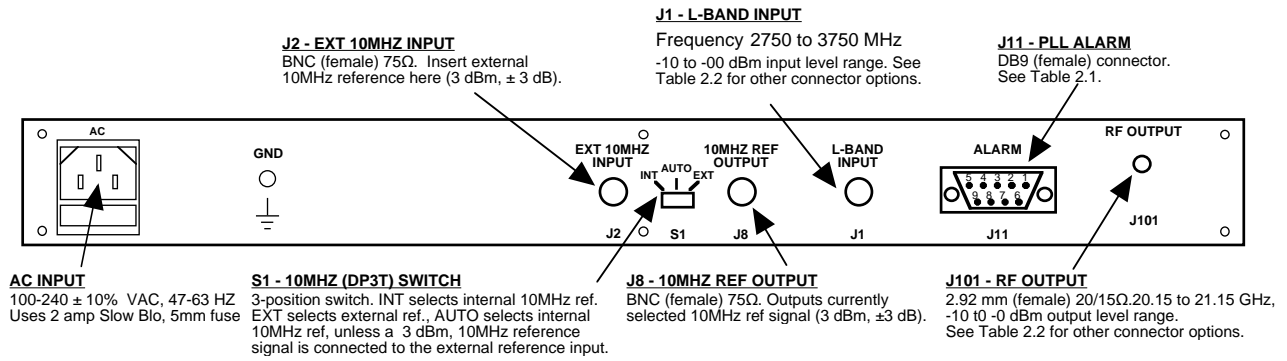

FIGURE 2.1 2115-211-3250 Rear Panel I/O's
2.2 Rear Panel Input/Output Signals - Figure 2.1 shows the input and output connectors on the rear panel.
1. Connect a -10 dBm to -00 dBm signal to L-BAND INPUT, J1 (Figure 2.1).
5. Select either INT (for internal 10MHz ref), AUTO (for internal 10MHz ref UNLESS a external 10MHz, 3 dBm signal is connected to J2), or EXT (for external 10MHz, 3 dBm ref that is inserted at J2) on rear panel switch S1 (Figure 2.1).
7. Check that a 10MHz, 3 dBm \pm 3 dB signal is present at the 10MHZ REF OUTPUT (J8) (Figure 2.1).